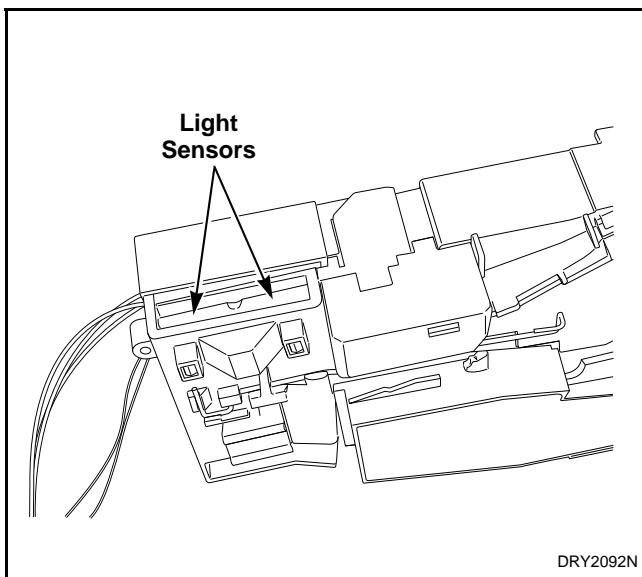

Figure 58
- g. Clean light sensors with a soft brush or air spray duster. Refer to *Figure 58*.